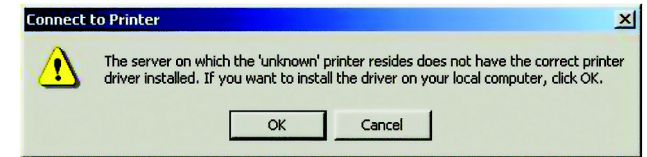

Figure 8-6: Connect to Printer
4. If the connection can be established, and the printer on that port is online, the dialog box shown in Figure 8-6 will be displayed. This screen notifies you that the printer driver is not installed. Click the **OK** button.